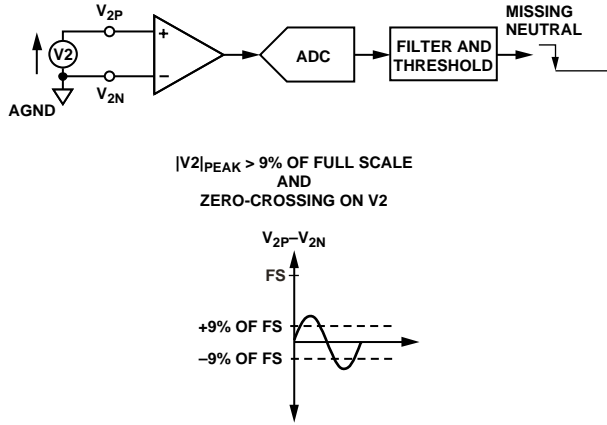

Figure 32. Return to Normal Mode after Missing Neutral Detection
**Case 1:** When the analog input  $V_{2P} - V_{2N}$  complies with the conditions described in Figure 32, CF, F1, and F2 frequencies are proportional to active power and can be used to bill active energy.
**Case 2:** When the analog input  $V_{2P} - V_{2N}$  does not comply with the conditions described in Figure 32, the ADE7761 does not measure active energy, but a quantity proportional to kWh. This quantity is used to generate pulses on the same CF, F1, and F2. This situation is indicated when the FAULT pin is high.
The ADE7761 leaves the missing neutral mode for normal operation when both conditions are no longer valid—voltage peak value greater than 9% of full scale and zero crossing on the voltage channel detected (see Figure 32).
**Case 2:** When the analog input  $V_{2P} - V_{2N}$  does not comply with the conditions described in Figure 32, the ADE7761 does not measure active energy, but a quantity proportional to kAh. This quantity is used to generate pulses on the same CF, F1, and F2. This situation is indicated when the FAULT pin is high.